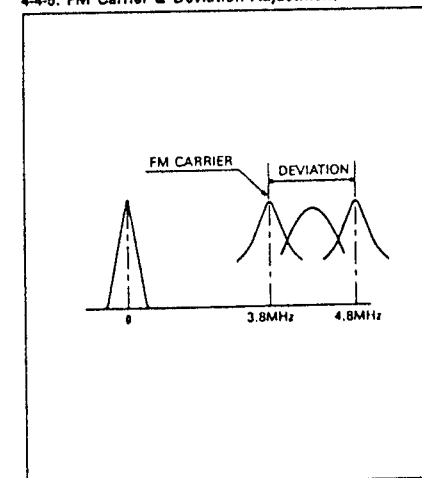

Fig. 10 FM Carrier & Deviation Adjustment
- 6) And then adjust the Deviation Control (VR3304) so that the frequency is 4.8MHz \pm 0.1MHz for the 1MHz deviation. (See Fig. 10).